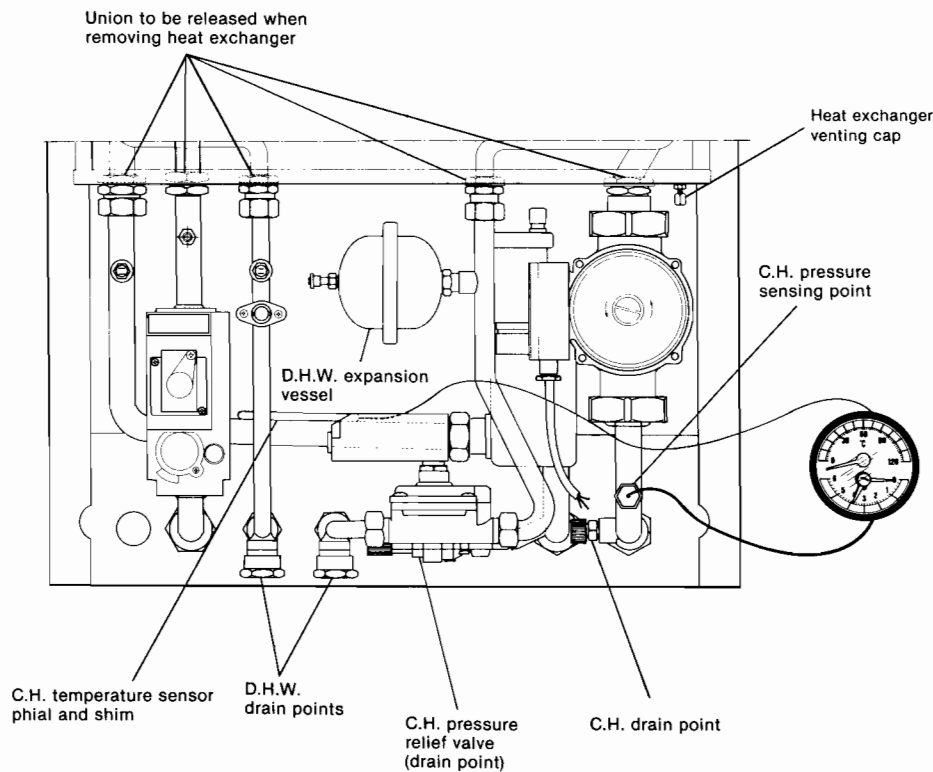

Fig. 37
- b) For replacement of parts where water connections are broken, it will be necessary to isolate and drain either or both the central heating or domestic hot water circuits of the boiler only. The cold water mains inlet is isolated at the inlet cock (fig. 1). The D.H.W. is drained via two caps (fig. 37).
The C.H. flow and return cocks are turned off at the isolation cocks (fig. 1). The C.H. is drained via the pressure relief valve (twist about 1/2 of a turn). Also the drain point located on pipe below the pump (fig. 37).
- Refer to section 1, items a, b, c, d, f and g (drain D.H.W. only fig. 37).
- b) Remove the shim then the temperature sensing phial from its pocket (fig. 37).
- c) Unscrew the pressure sensor from its housing (fig. 37). (Access from below).
- b) Unscrew the expansion vessel (fig. 37). (Take care not to loose the sealing washer).